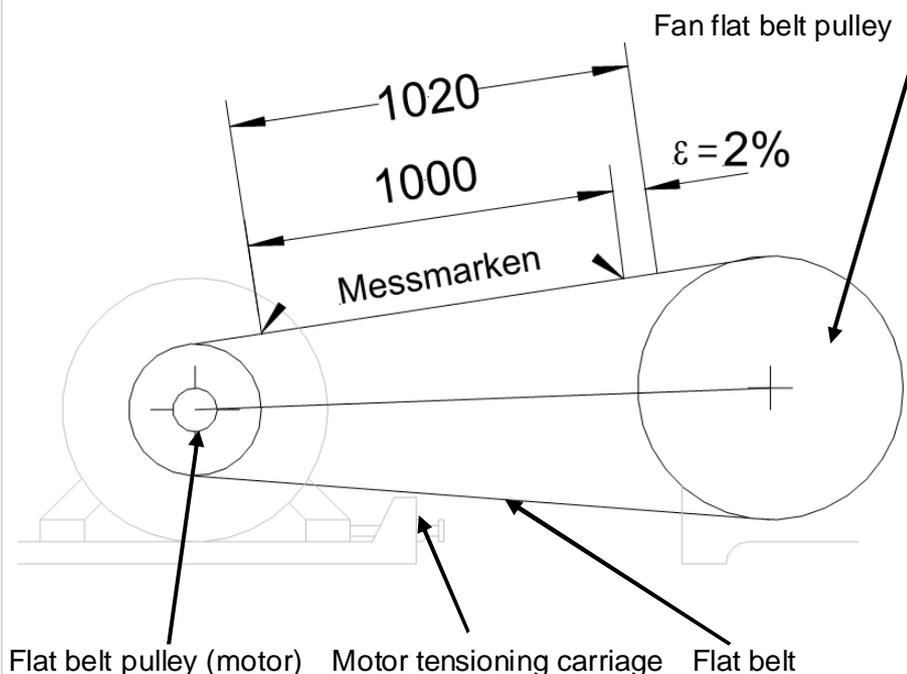

Figure 4.16: Measurement marks and elongation for determining the correct measurement mark spacing
electronic measuring device (e.g. belt tension meter). This vibration in Hz is to be adjusted to the specified value (documentation/type plate). The measurement point lies in the centre of the drive belt (see **Figure 4.16**).
4. Tension flat belts by increasing the shaft spacing (motor tensioning carriage) until the distance between the measurement marks is increased by the value of the elongation ε (see **Figure 4.16**).
For clarification, a calculation for **Figure 4.16** for determining the exact measurement mark spacing on the tensioned flat belt is prescribed: